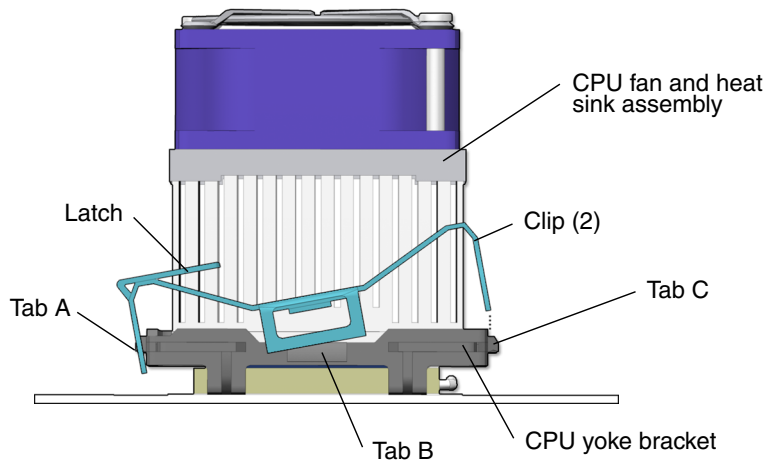

FIGURE 11-16 Installing the Clip on Tab B
b. Place the clip over tab b of the CPU yoke bracket (FIGURE 11-16).